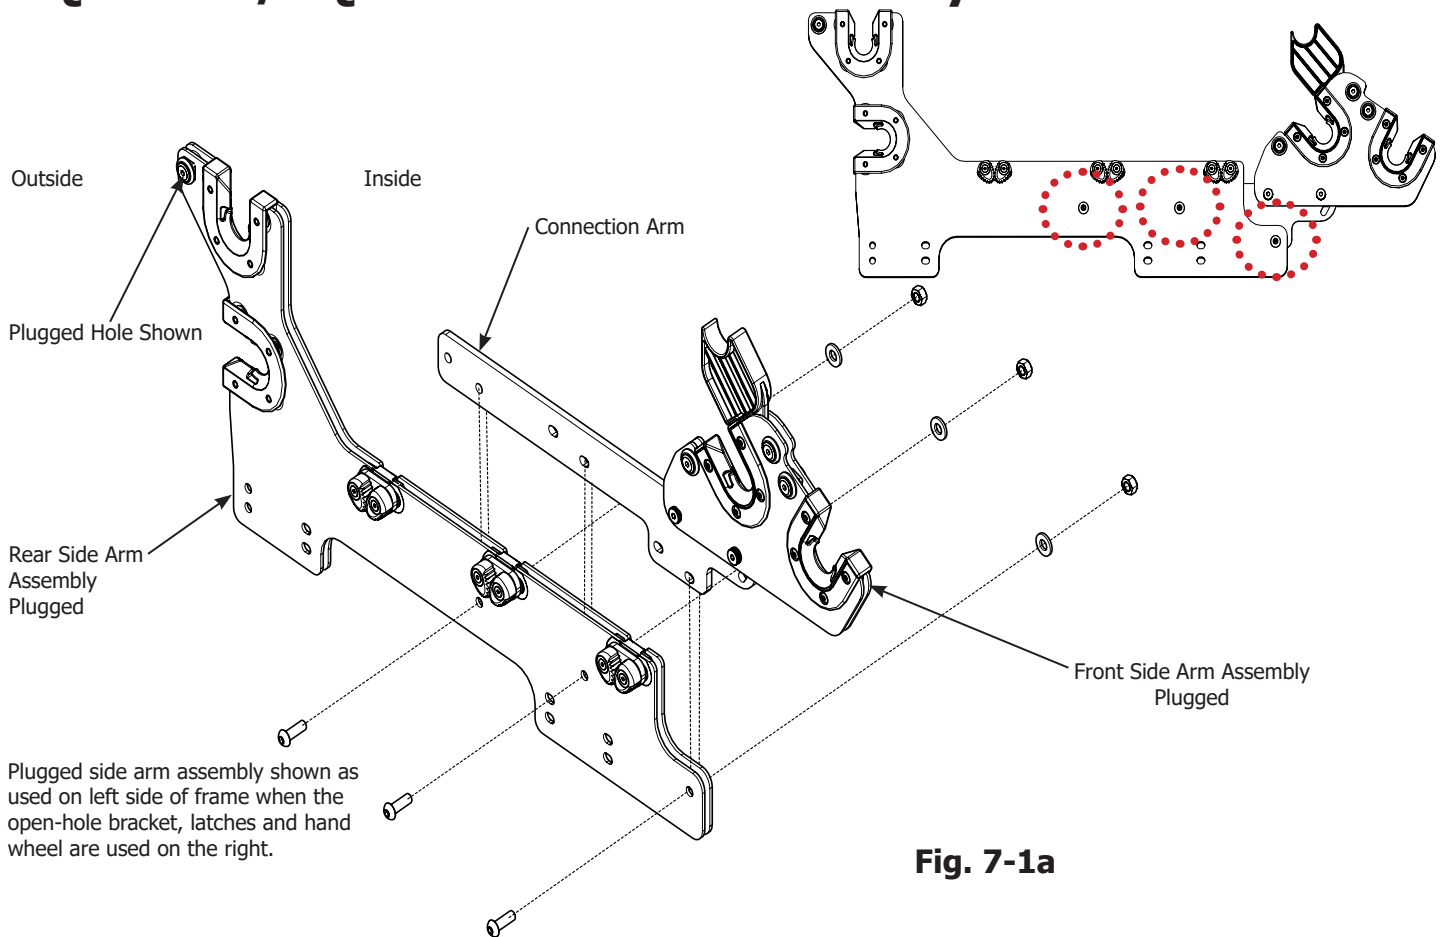
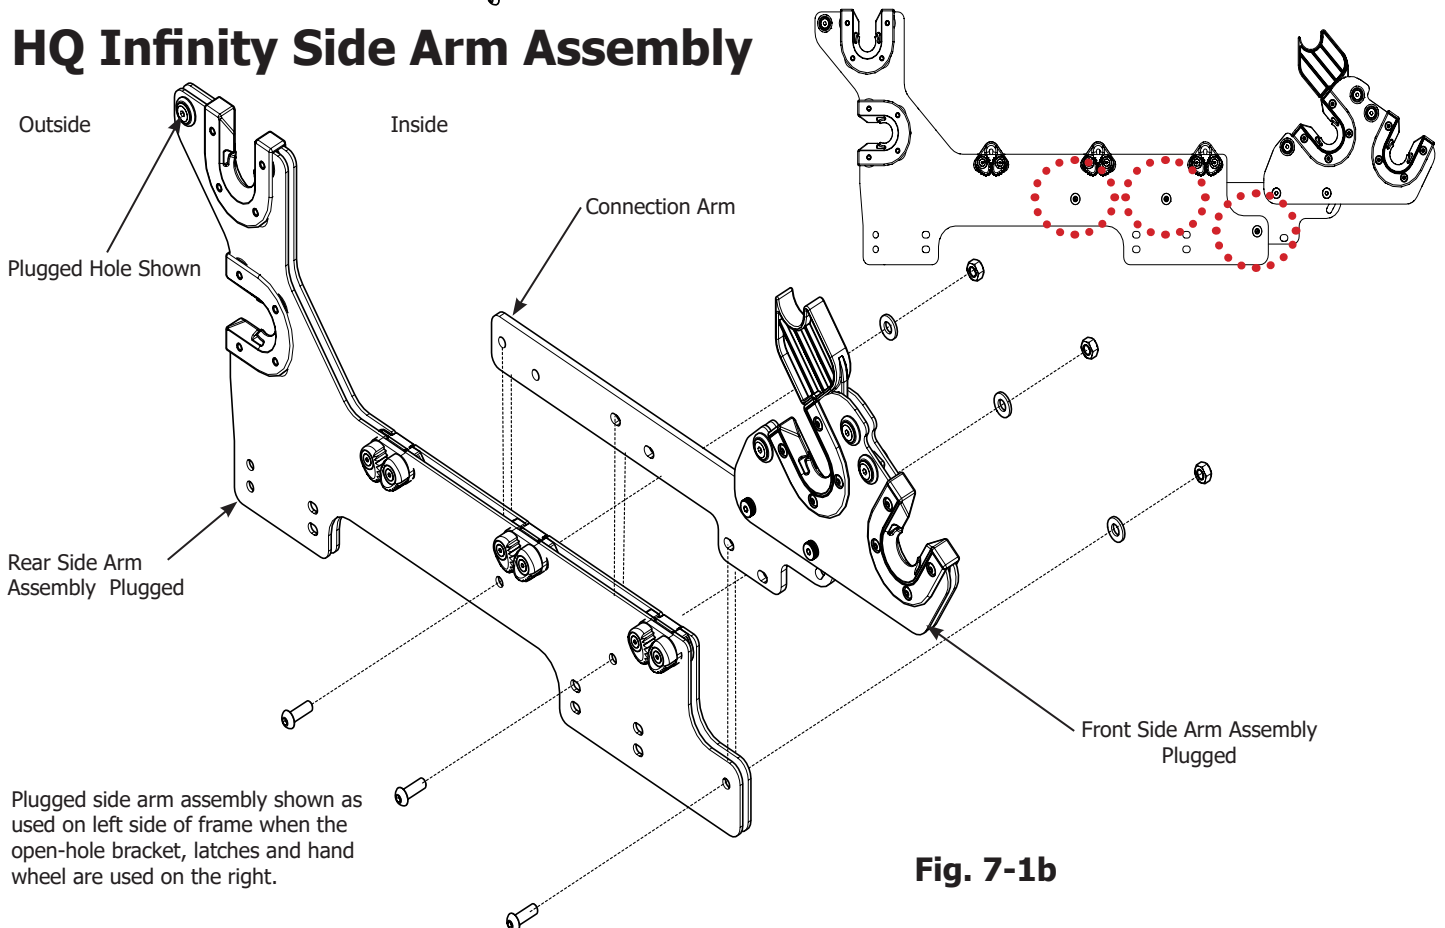

Fig. 7-1a
Fig. 7-1b
7-3: Assemble the side arm assembly plugged front, the connector arm, and the side arm assembly rear using three (3) M8 x 25mm SBHCS with three (3) M8 washers and three (3) M8 lock nuts as shown in Fig. 7-1a and Fig. 7-1b.
Fig. 7-1a shows assembly for the HQ Fusion®/HQ Forte™ 24-inch machine.
Fig. 7-1b shows assembly for the HQ Infinity® 26-inch machine.